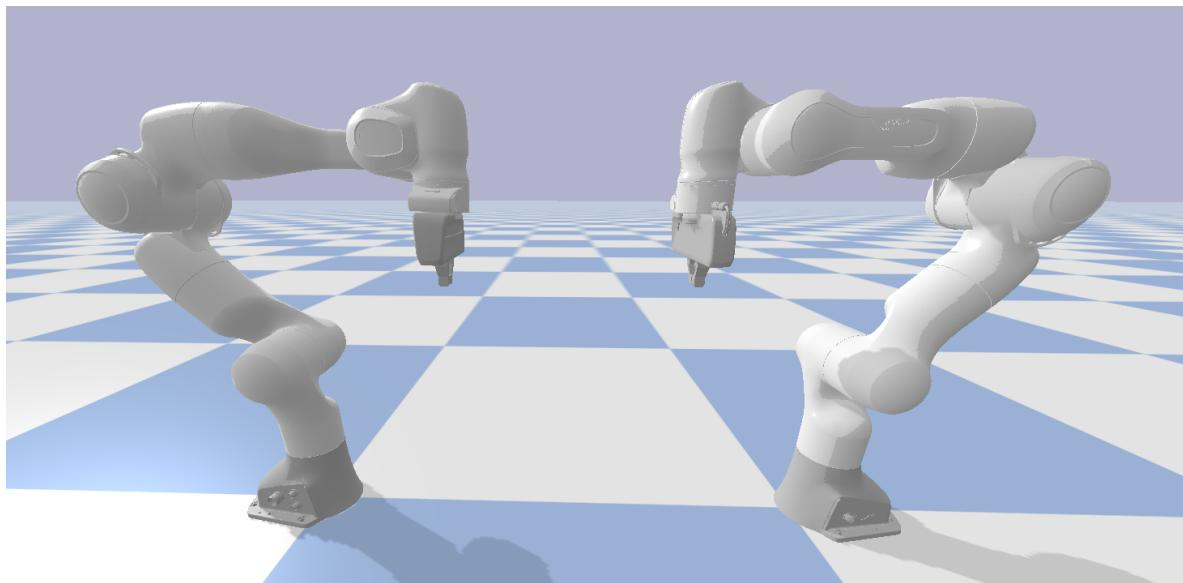

Figure 2: Left and Right Arm of the bimanual system
1. To complete this exercise, we need to define the frames that describe the system depicted in Figure 2, the objective is to obtain two kinematic chains, one for each manipulator. First, define the transformation matrices between the world frame and the two end-effector frames. The transformations between the world and the base of each robot must be computed knowing that: